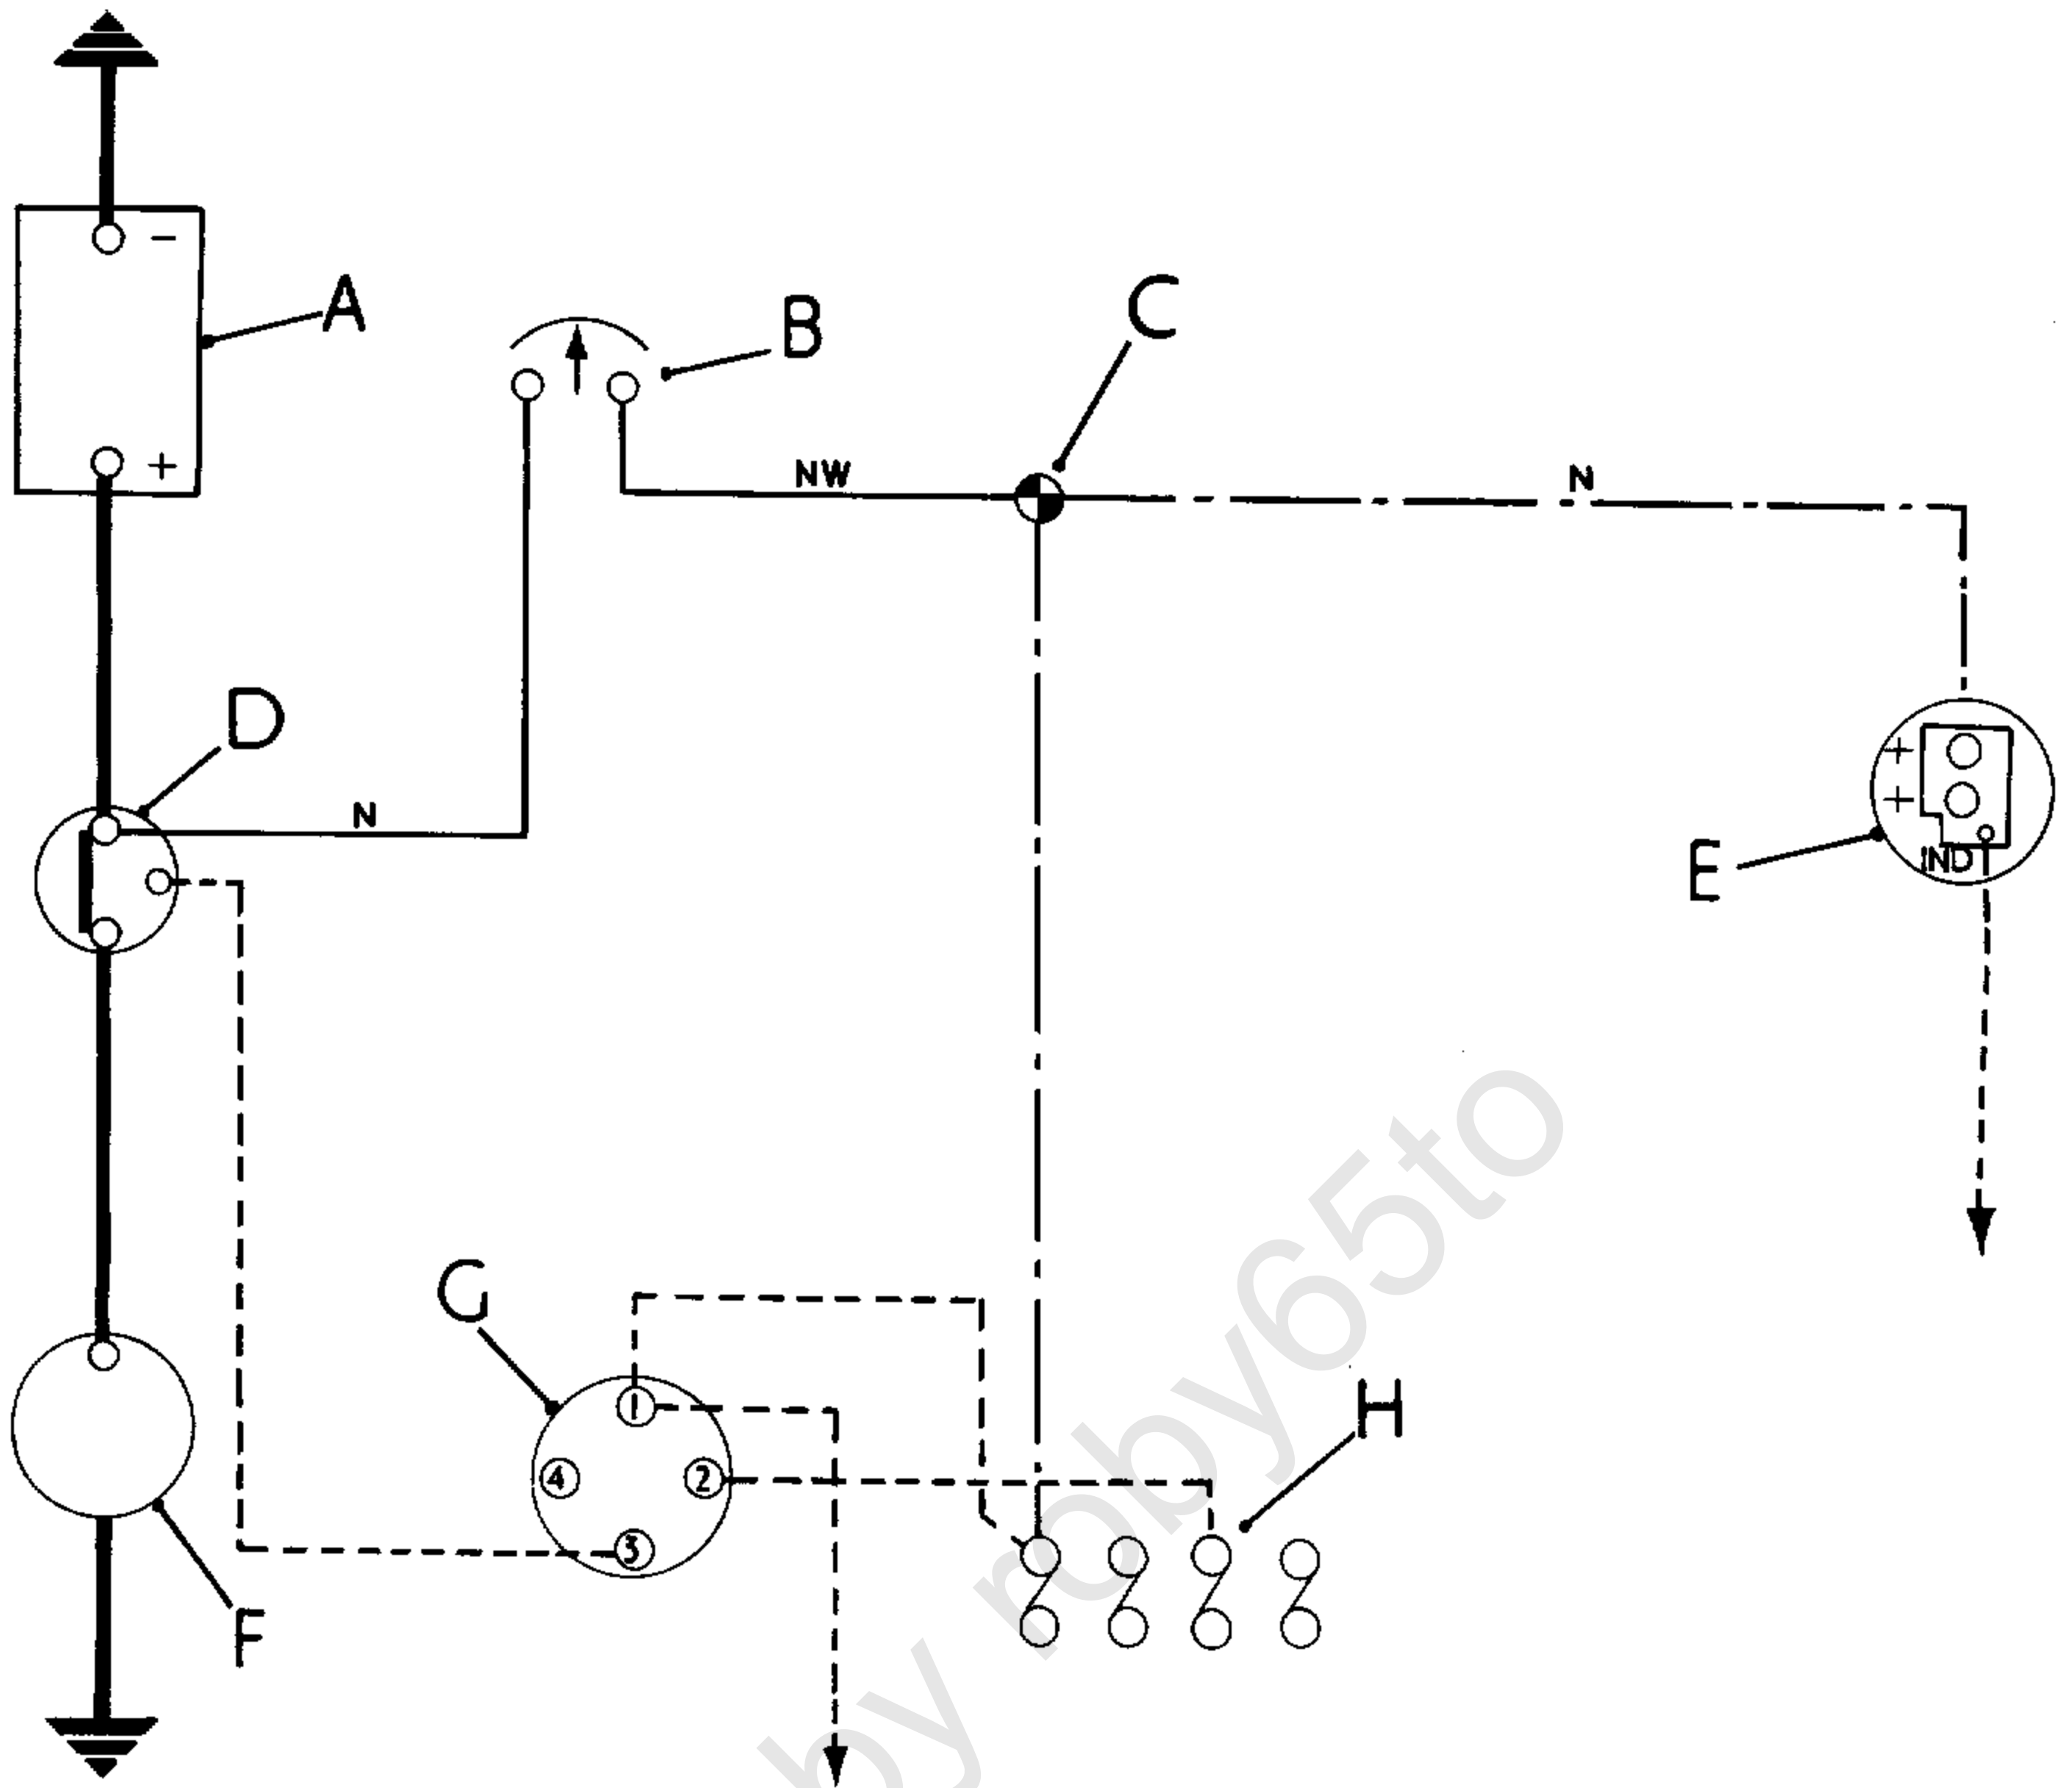

Fig. 2. Electrical circuit for ammeter installation - Petrol models
7. Petrol Models - Disconnect the thick brown lead of the alternator harness (twin leads if an 18 ACR alternator is fitted) and the thick brown lead of the main harness from the starter solenoid. Connect these leads to the terminal post together with the brow/white lead of cable assembly 579221. Figs 2 and 4.